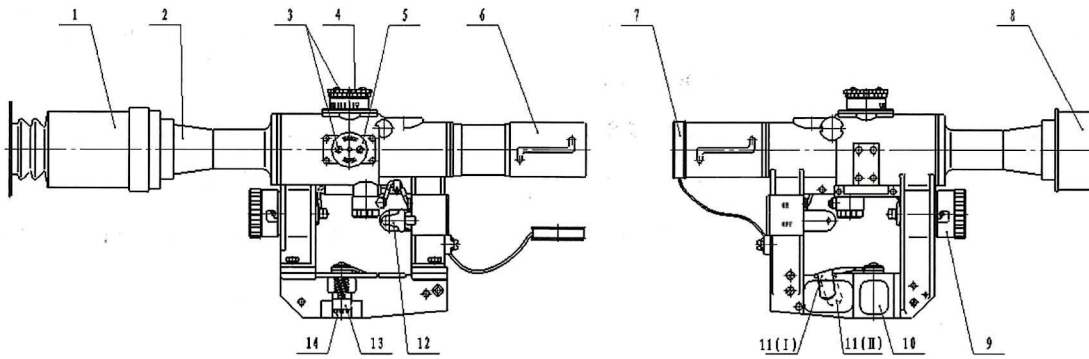

Fig.1
The sight consists of the objective, the body assembly (including the range drum, deflection drum, bulb, cell container and switch), the ocular and the mount (Fig.1).
4.3 The range drum 4 (Fig.1) is a device for range setting. Its scale ring is graduated and numbered from "0" to "10" corresponding to the firing range from 0~1000m. The graduation "1" and "2" totally use a position where the range index can be mechanically set, and in between each two graduations starting from the graduation "3" there is a position where the range index can be mechanically set and these in-between positions indicate in turn the firing range of 350m, 450m...950m correspondingly.
4.4 The dovetail seat 10 (Fig.1) is a device by means of which the sight is mounted onto the rifle. The sight can be released free by shifting the handle 11 to position (II) and be fixed up by shifting the handle to position (I). If the handle is not able to be shifted to position (I) or when the handle